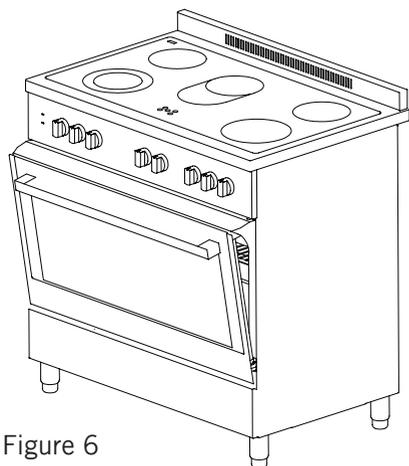

Figure 6
4. And then secure the safety panel in between oven and front cover by gently closing the cover. (Figure 6)